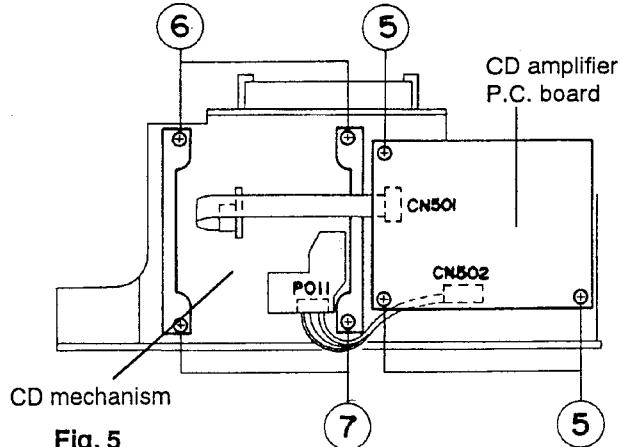

Fig. 5
1. Remove the five screws ④ retaining the LCDP.C. board from the CD player assembly.
■ CD Amplifier P.C. Board (refer to Fig.5)
1. Remove the three screws ⑤ retaining the CD amplifier P.C. board from the CD player chassis.
■ CD Mechanism Assembly (refer to Fig.5)